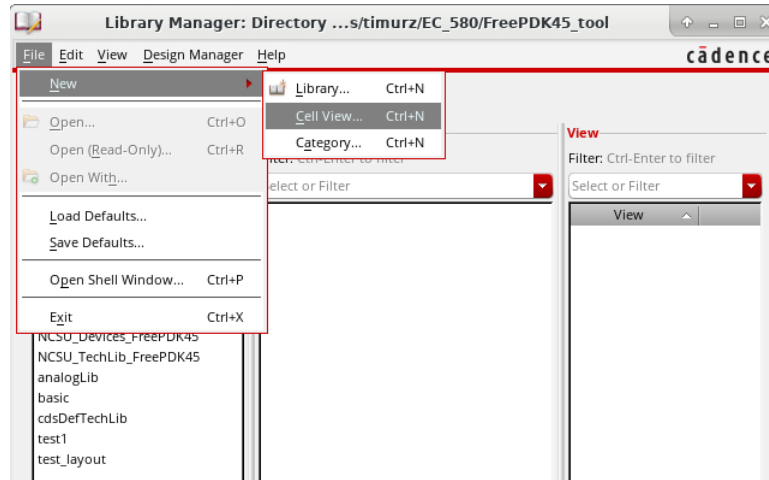
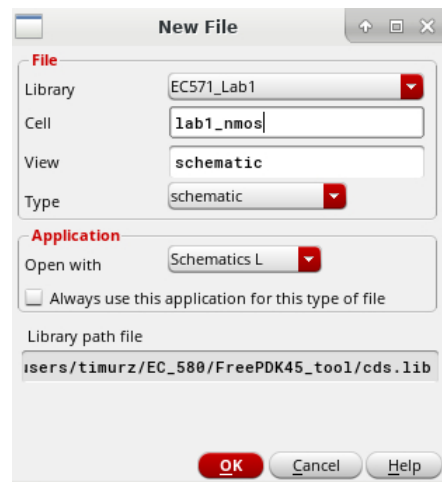

Figure 7: Creating new cell form the “Library manager”
Figure 8: New cell view creation window
1. In the "Library Manager", select your library, then click File → New → Cell View (Figure 7). Give Cell the name "lab_nmos". Make sure "Type" is schematic, and you are creating this cell view under the right library. Click "OK" (Figure 8).